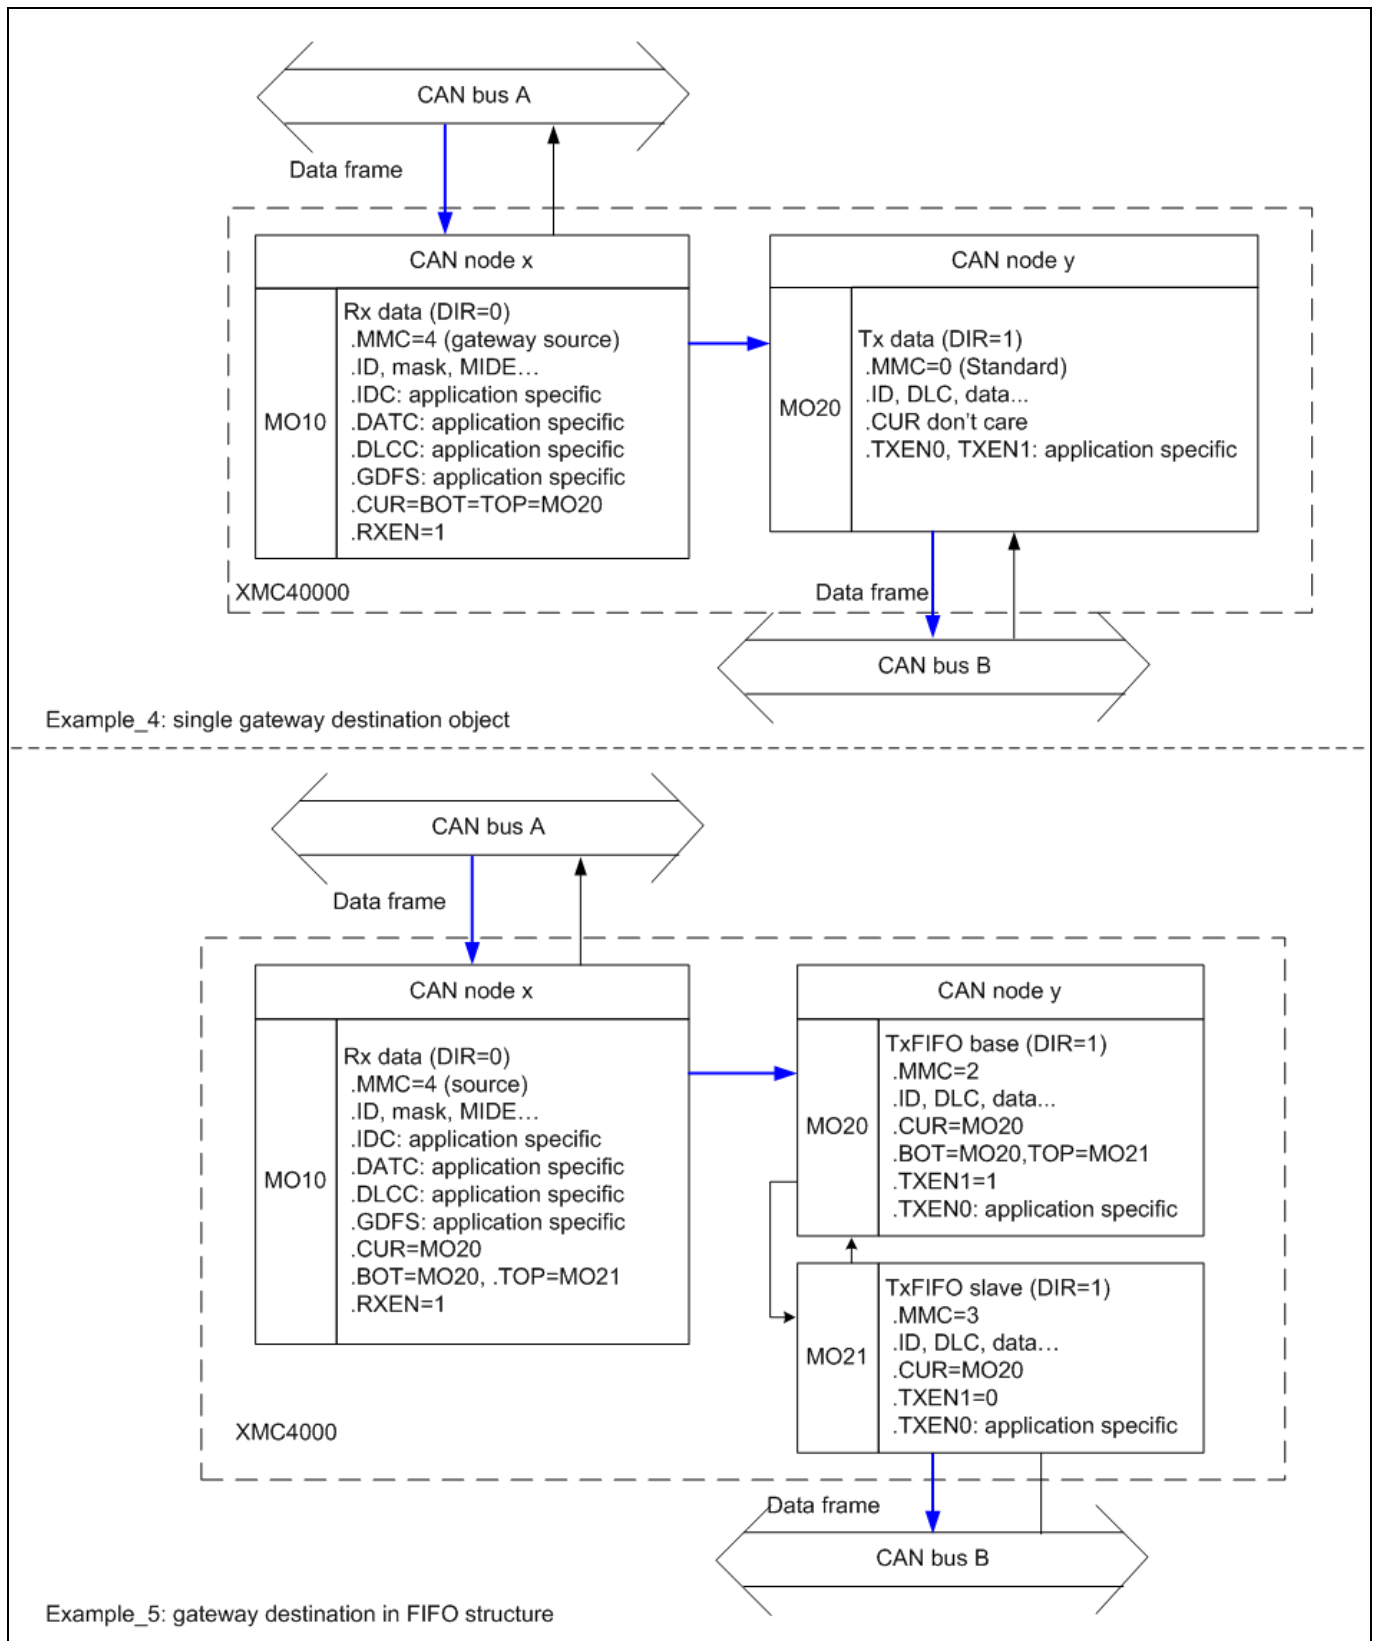

Figure 14 MultiCAN gateway
- Figure 14 shows gateway use case for data frame reception.